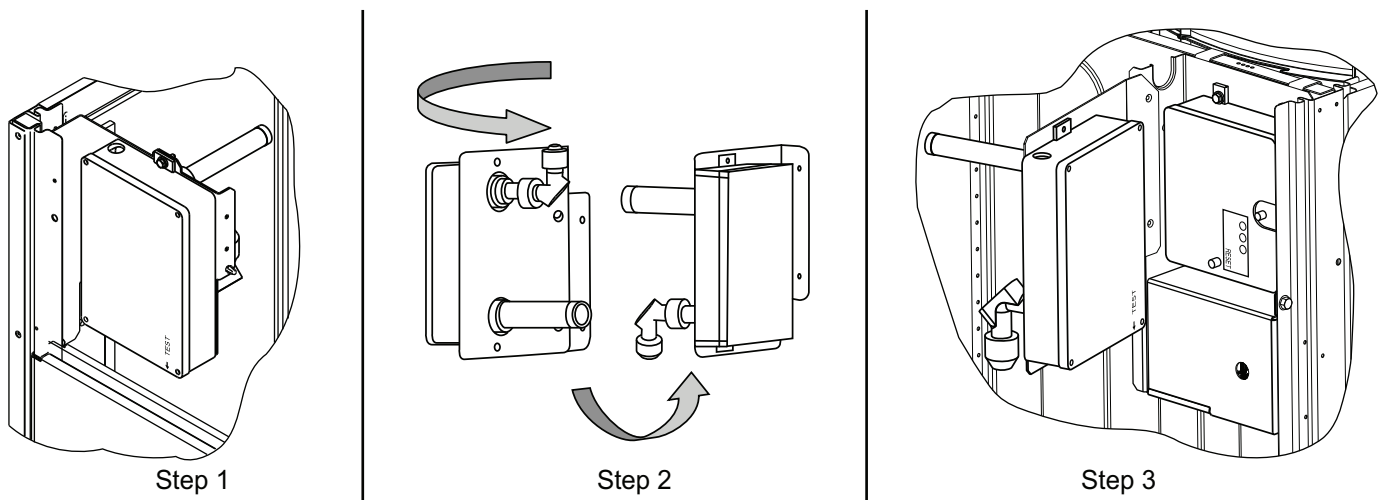

Fig. 71 — Completing Installation of Return Air Smoke Sensor
1. Unscrew the 2 screws holding the return air smoke detector assembly. See Fig. 71, Step 1. Save the screws.
2. Turn the assembly 90 degrees and then rotate end to end. Make sure that the elbow fitting is pointing down. See Fig. 71, Step 2.
3. Screw the sensor and detector plate into its operating position using screws from Step 1. See Fig. 71, Step 3.